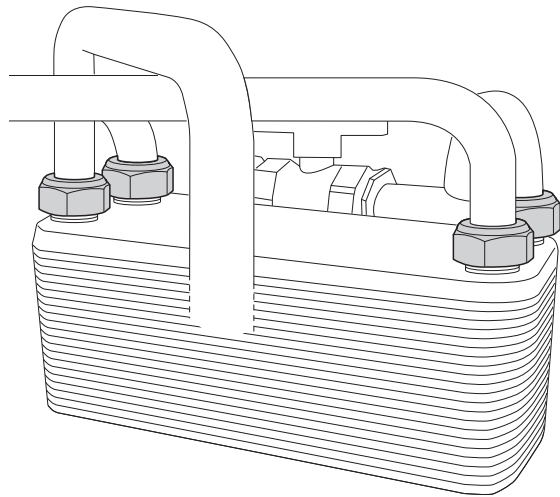

Fig. 38
- 8.19.7 Undo 4 unions and withdraw heat exchanger (see fig. 38).